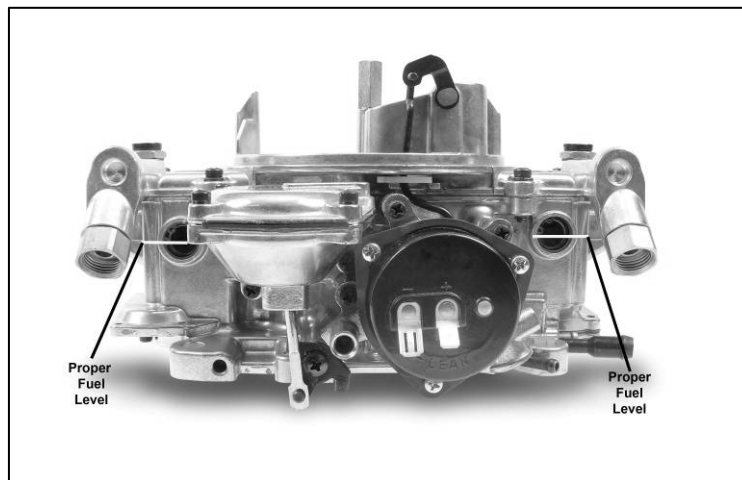

Figure 12
2. Observe the sight glass for the fuel level. If none is seen, the level is too low. If it is higher than the middle of the sight window, it is too high. **NOTE:** A properly set float level will have the fuel level located at the middle or slightly below the middle of the sight window, as shown by the line in Figure 12